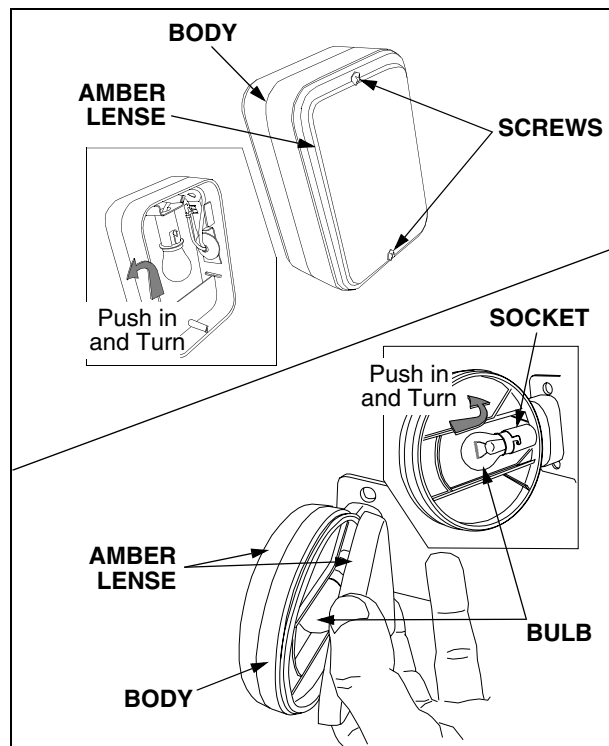

Figure 37
- **Round Hazard Light ONLY** — Insert a **thin** bladed screwdriver, or similar tool, between an amber lense and the hazard light body, then twist to separate the lense from the body. Refer to Figure 37.
- **Rectangular Hazard Light ONLY** — Remove the two screws from either the front or rear amber lense; then slide the lense out of the body. Refer to Figure 37.
- Push the bulb inward and turn counterclockwise, then pull the bulb outward to remove from the light socket. Refer to Figure 37.